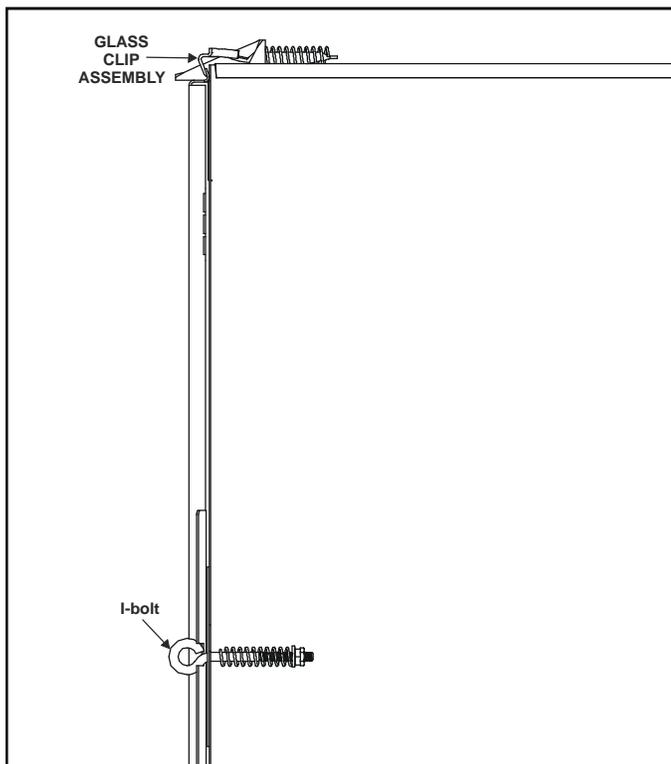

Figure 36. Glass Assembly
- Glass can now be reinstalled, followed by glass clips and I-bolts (see Figure 36). I-bolts can be fastened by using a special hook tool that is shipped with the fireplace. Finish the installation by installing decorative door.
Note: When removing or replacing the glass, use the special hook tool provided with the fireplace to turn the I-bolts to a 45° angle for ease of operation. The I-bolts can then be moved through the slots in the glass frame with the special hook tool provided. Make sure the I-bolts end up in the orientation shown in Figure 36 when installation is complete.